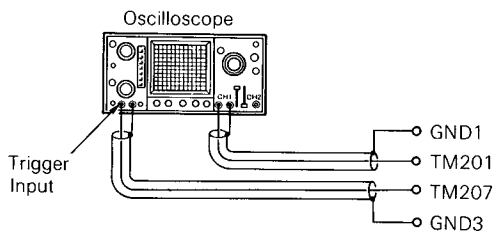
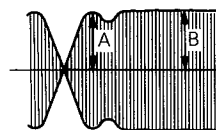

Fig. 26
Fig. 27
- (1) Connect oscilloscope external trigger input to TM207 and GND3. Connect oscilloscope vertical input to TM201 and GND1. (fig. 26)
- (2) Insert the Philips test disc #5 and place unit in pause mode on track number 1.
- (3) Adjust VR107 so that the amplitude of the waveform becomes the same at A and B. (fig. 27)